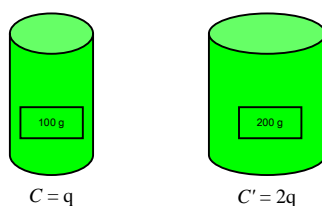

Figure 1. Heat required for $1\text{ }^{\circ}\text{C}$ change in temperature showing dependence of heat capacity, C , on amount of substance.
The **heat capacity** (C) of an object is defined as the quantity of heat required to change an object's temperature by one unit of temperature (usually $1\text{ }^{\circ}\text{C}$ or 1 K). The heat capacity is dependent on the *amount* of a sample present as shown in Figure 1, and is thus an *extensive property*: a larger amount of sample requires more heat than a smaller amount of the same substance to raise the substance's temperature by one unit. In addition to the amount of substance present, the *kind* of substance has a direct bearing on its heat capacity. The same amounts of different substances usually have different heat capacities, and heat capacity is often used for samples of a fixed size. It would be more convenient if the heat capacity depended only on the type of material, and not the amount of material. If heat capacity were an intensive property, independent of the amount of substance, it could be used as an analytical tool to identify a substance, much like density.